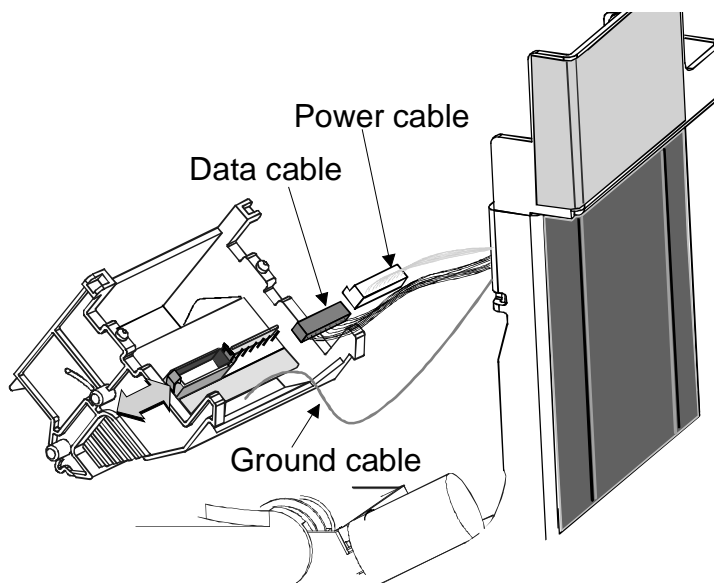

Figure 4-11: Printhead power and data cables and connectors
- Push the black locking tabs to the side. Remove the gray connector of the printhead data cable from the printhead cartridge (see Figure 4-11).
- 1 Carefully align the openings on the (white) power cable plug with the wires of the power receptacle on the printhead. Push the cable's plug all the way onto the receptacle (see Figure 4-11).
- 2 Push the (gray) data cable plug into the new printhead cartridge (see Figure 4-11). Make sure the locking tabs are in place.